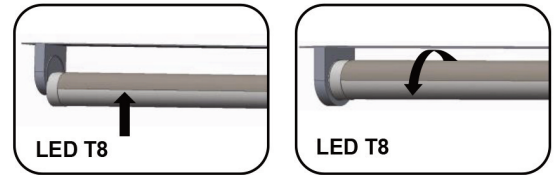

Fig. 3
5. Install LED T8 DirectFit lamps. Ensure that the pins are firmly seated in the lampholders. **(Fig. 3)**